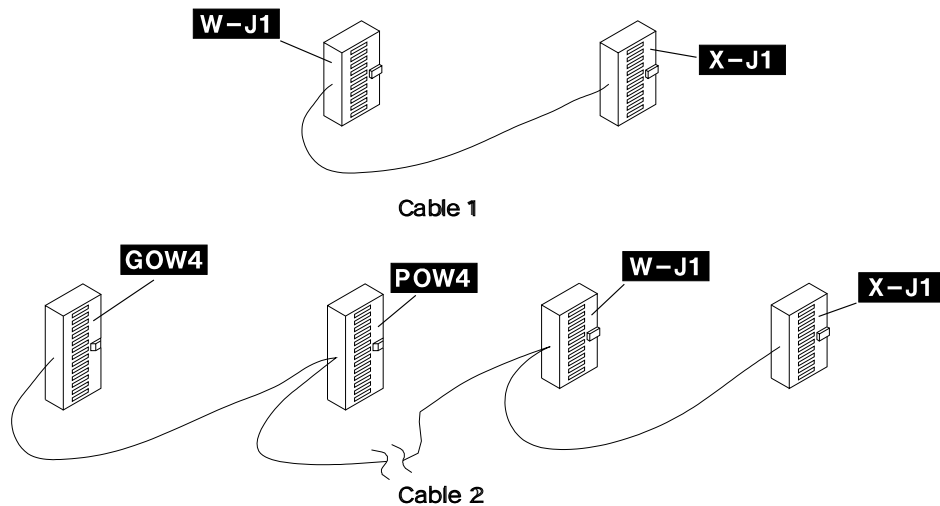

Figure 4-13. DICO Cables
- Step 3. ____ Determine the type of the LAB1 board. The first LAB in the machine at location 01G-A1 can be either a TSST or TSSB type. A LAB type TSSB can be identified by the presence of a board address card in 01G-A1-B2. This is a small single-position wide card. If a four-wide card or no card is present, then the board is a TSST type. If you have a **TSSB** board obtain the DICO **able 1** PN 43G3180, for a **TSST** board obtain **able 2** PN 43G3181 (see Figure 4-13).